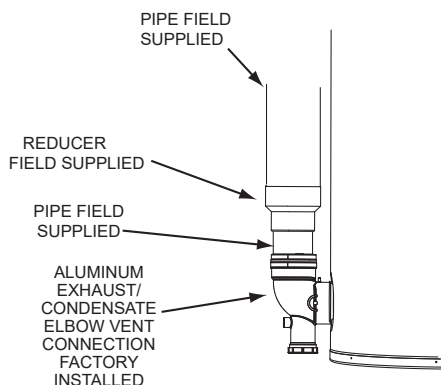

Figure 31. Vent Exhaust Connection
9. Slide a roof boot or equivalent flashing over the pipe, secure the roof boot or equivalent flashing to the roof (see *Figure 31*), and seal around the flashing.